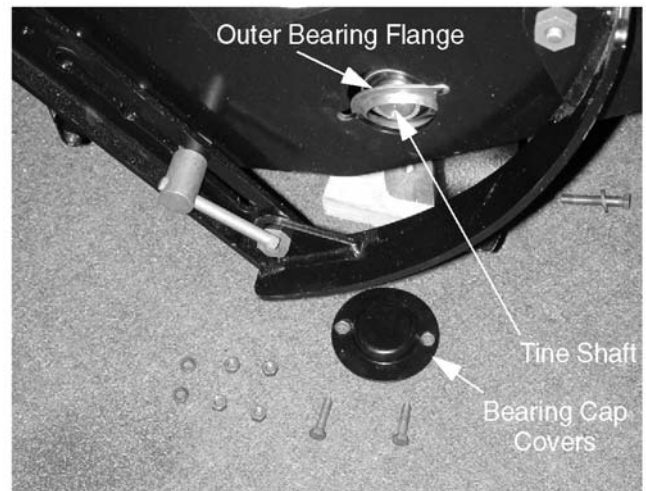

Figure 8-113.
8. Remove the bearing cap cover and push the tine shaft into the tine adapter assembly. See Figure 8-113.